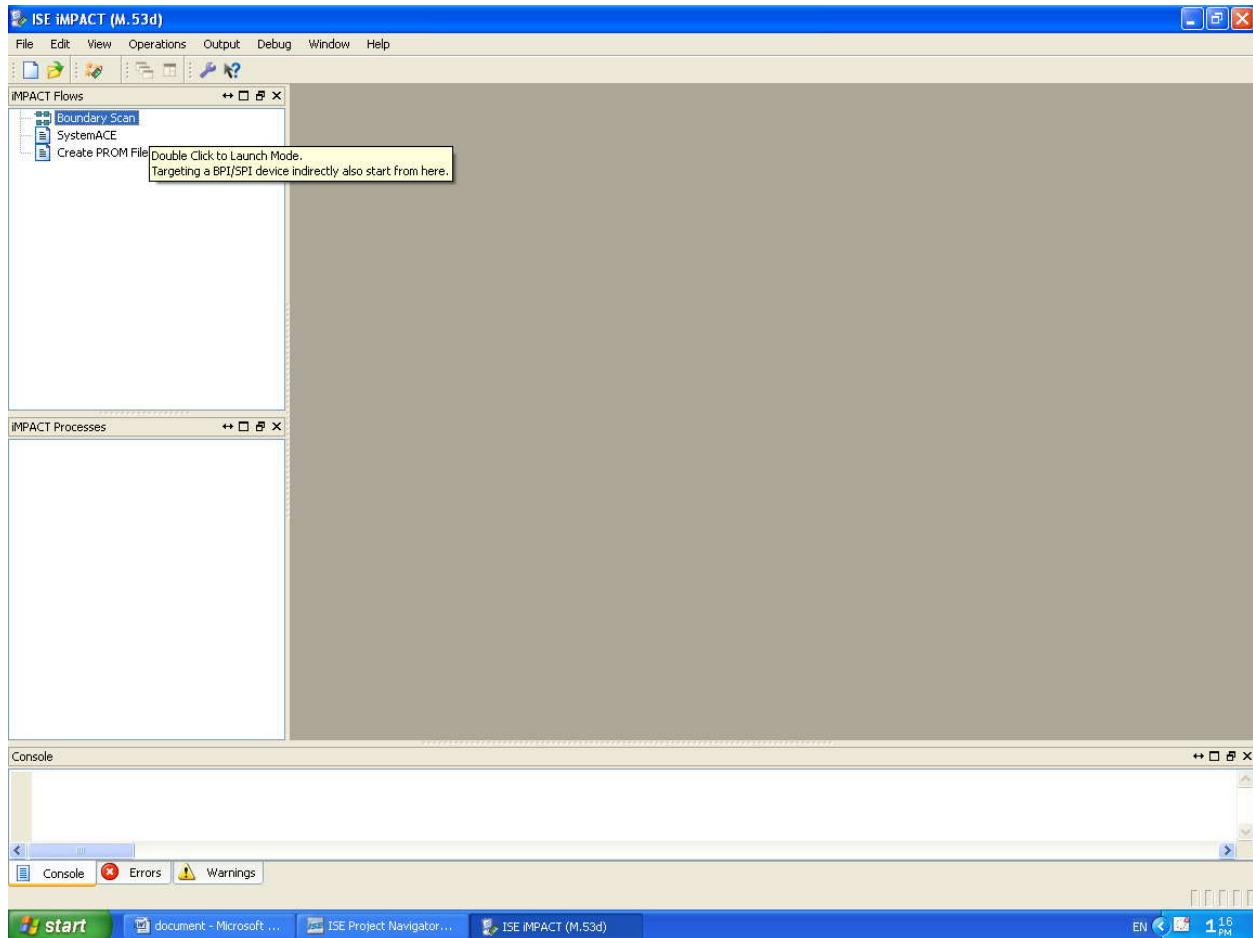

Figure-33
14. Double click the Boundary Scan mode, presented in the left side of the window. Refer figure- 33, 34.